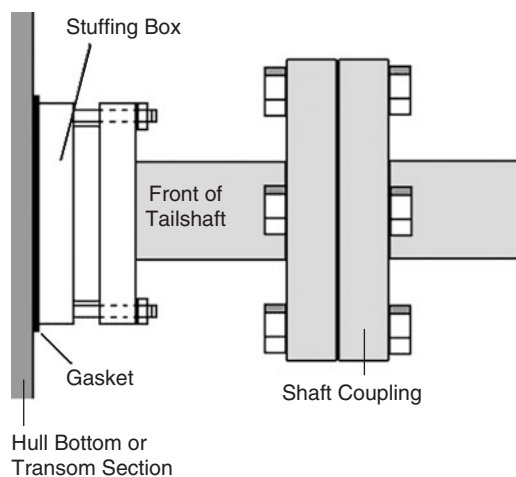

Fig. 1-4. Representative stuffing box.
12. Find the stuffing box (Fig. 1-4) and learn the best way to adjust it. The stuffing box is where the boat's propeller shaft exits the hull. The stuffing box contains the propeller shaft seal, and the job of the assembly is to keep the ocean out of the boat while allowing the shaft to turn. Most stuffing boxes are designed to admit a slow drip of water, which lubricates the shaft, and the purpose of adjustment is to obtain the proper drip rate. If the drip is too fast, the bilge fills with water; if it is not fast enough, the shaft overheats. *Note: Newer boats are often equipped with so-called dripless propeller shaft seals.*
The propeller shaft stuffing box is another source of water coming into the vessel. Since the stuffing box seal is low in the boat and usually tucked out of sight, it can be dripping without being noticed right away. This makes adjustment of the stuffing box seal important. The gasket behind the stuffing box can also leak. See Figure 1-4 earlier in this chapter.